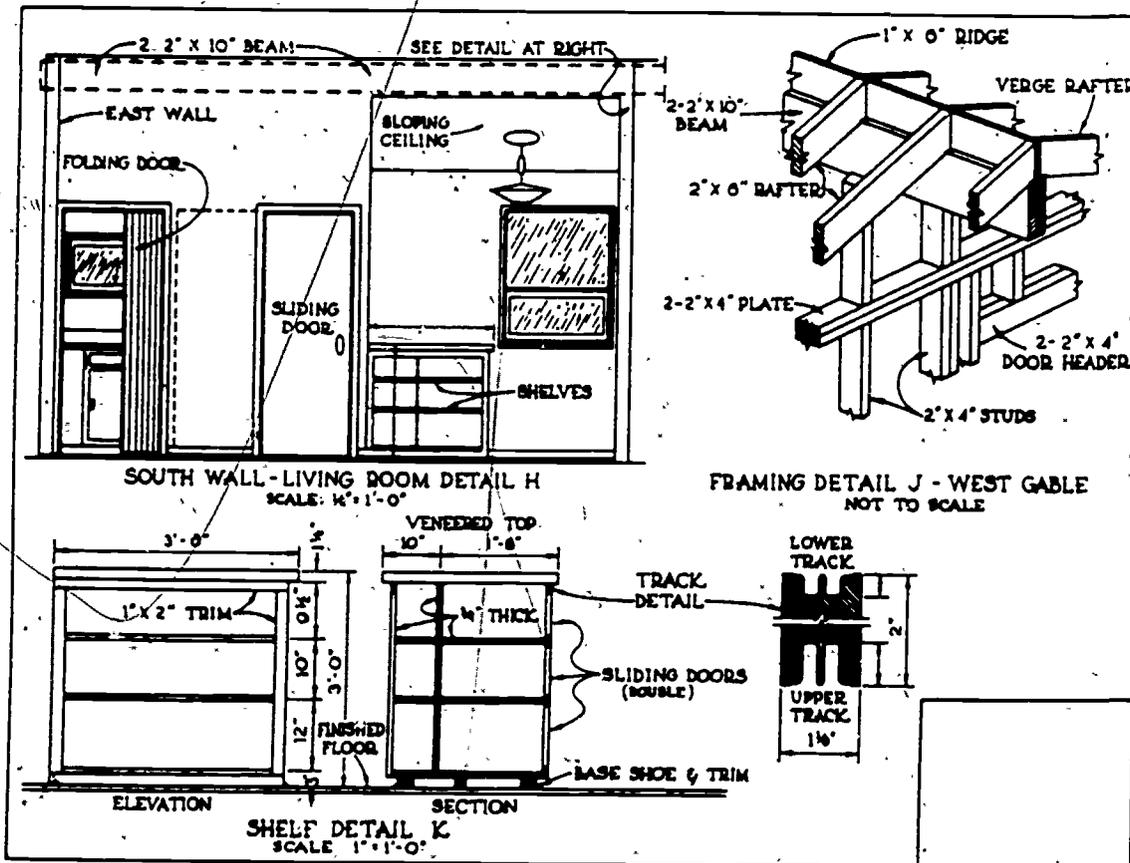
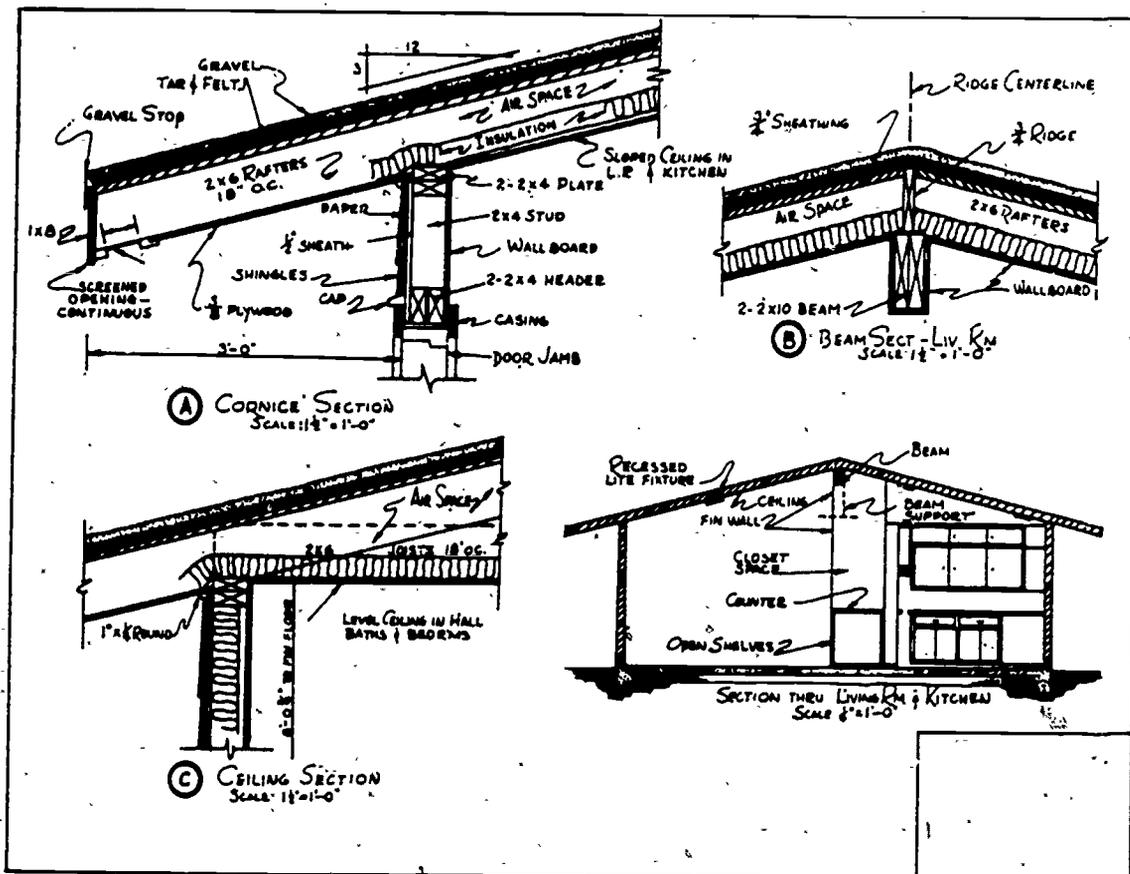

Figure 23. Details.
Figure 24. Sections.
5-14. **Sections and Details.** A section and a detail are practically synonymous; however, no view is called a detail unless it is drawn to an enlarged scale to show construction features more clearly: A south wall detail of a living room, a framing detail of a gable, and a shelf detail are shown in figure 23. The detail sections show parts of the structure with greater exactness than the small-scale section taken through the structure. When the cutting plane cuts across the narrow part of a structure or building, the view is called a transverse section. A transversal is a line intersecting any system of lines, as indicated in figure 24 (C). Sectional views taken lengthwise are called longitudinal sections. Detail sections which are usually shown are foundation, wall, door, window, or any other section considered necessary to explain the construction.
in other views. They are usually developed in right-angle projection, but a pictorial projection may be used if it shows the construction to a better advantage. Important parts of detail and sectional views are the notes and dimensions to show the size of materials and the placement of parts in relation to each other. For instance, section A of figure 24 gives such details as rafter sizes (2 x 6 rafters 18" on center), sloped ceiling in the living room and kitchen, gravel roof, etc. The specifications describing the length of the rafters, amount of slope, and the thickness of the gravel roof would be included in the construction notes for the job.
ing. Both of these views are too small to clearly show minor assemblies; therefore, special drawings are made showing only a portion of the main structure. These are called detail drawings because they show the most minute detail pertaining to the specific portion of the structure, as shown in figure 23. Specifications of materials, dimensions, and other information relative to construction are usually included. These drawings are made to a larger scale in order to give clearer detail. The importance of detail drawings is very easy to understand when you consider the information needed to build kitchen cabinets or stairways.
5-18. *Sectional views.* To show hidden construction features, various items are often drawn in sections, as shown in figure 24. This is done by cutting the item in the same manner that you would cut a wooden box to show the floor plan. The box is shown first with a line marking the cutting plane. A heavy dotted and dashed line is used to represent the place where the cut is to be made. The line has arrows at right angles to it, representing the direction in which the section is viewed. The section line is usually labeled